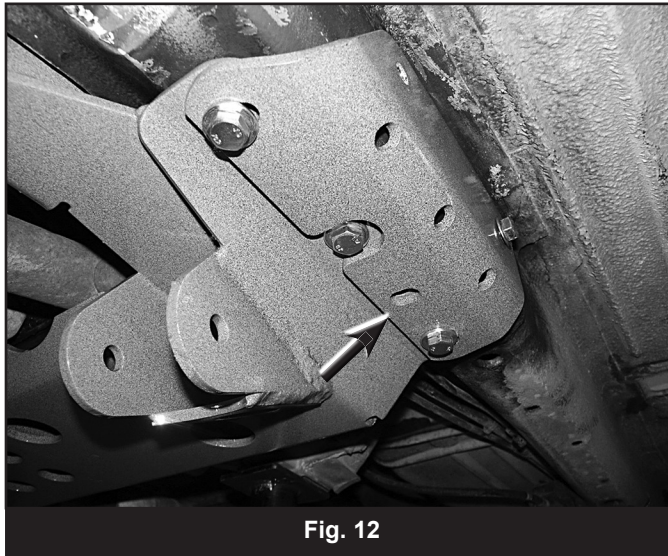

Fig. 12
25. Locate the second hole from the rear of the crossmember (Fig 12 - on both sides). Using the crossmember hole as a guide mark and drill the hole to 5/16".